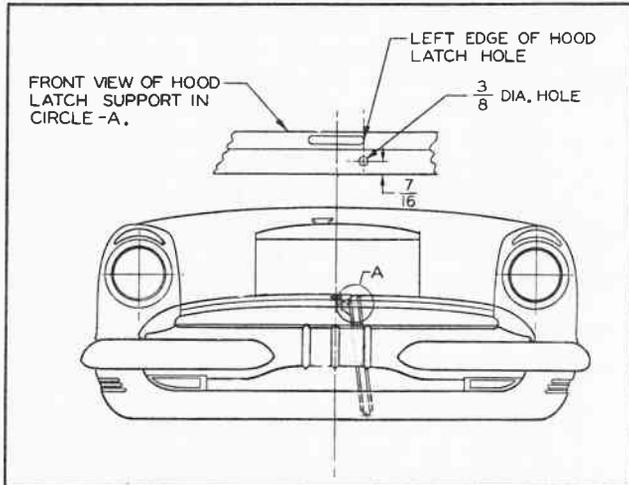

Fig. 3 Installation of #521090 Brace Assembly
In all cases of excess movement of the front of hood first check to be sure that second type hood latch striker and fender support brace assembly (521090) has been installed. All second type braces have a screw installed in the $\frac{3}{8}$ " hole shown in Fig. 3. If the second type brace is not installed, install as outlined in steps 1 through 5 below before proceeding. If this brace is installed, proceed from step 5 and complete balance of procedure.
3. Drill a $\frac{3}{8}$ " hole in the Hood Latch Striker and Fender Support from the front of the car as shown in Fig. 3. Punch hole for drill $\frac{7}{16}$ " up from lower edge of Hood Latch Striker and Fender Support and in line with left edge of hood latch hole and on top of the support.